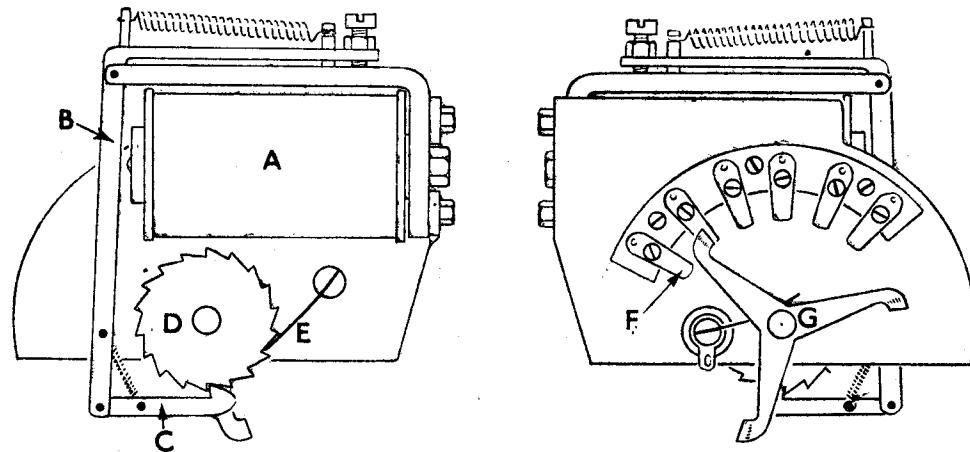

Fig. 8. Circuit selector. The overall width is about $3\frac{1}{4}$ in.
The construction of a selector is shown in Fig. 8. A is an electromagnet and B its armature carrying the spring-loaded pawl C. This rotates wheel D which is provided with a detent E. It will be seen that the electromagnet does not shift D directly—the wheel is rotated on the backward, spring-impelled movement, and this is important. I have not been able to make a selector work satisfactorily except on the backward movement where the impulse (being generated by a spring) is constant. If the action is reversed, a new battery with its increased power tends to make the wheel overshoot ; one of the essentials in construction is accuracy, so that the wiper arm stops quite positively on each contact.
Selectors are available in the surplus market, but as they often have four or more banks of wipers and contacts, they use about 12 W of power and are unduly large. Useful ones may, however, be made fairly simply on the lines shown in Fig. 8 the moving parts being of steel and the frame aluminium. Soft-iron is used for the magnetic circuit. It is normally necessary to use rather small teeth on the wheel and one generally finds that the number of circuits to be controlled is fewer than the number of teeth (i.e., steps). It
is usual, therefore, to make the number of teeth a multiple of the steps required and to fit two, three or four wiper arms. Fig. 8 shows 18 teeth, 6 contacts (F) and 3 wiper arms (G) a convenient arrangement giving control over 6 circuits.